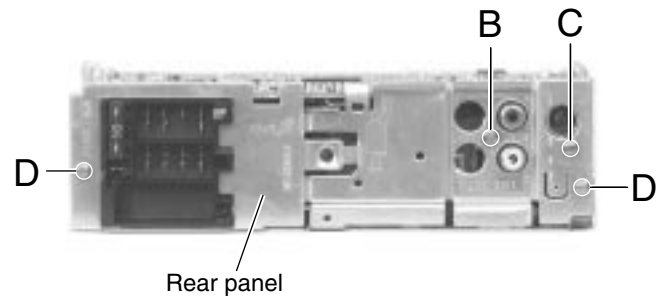

Fig.7
■ Removing the main board (See Fig.7 and 8)